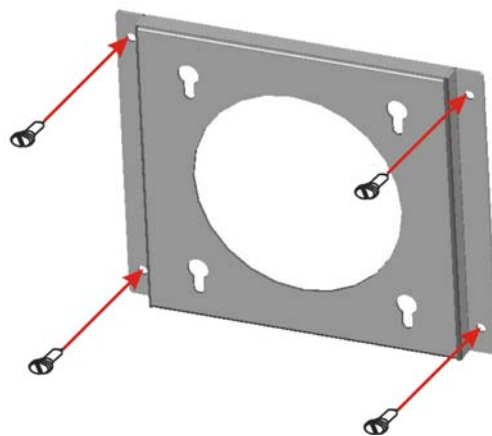

Figure 5-18: Wall-mounting Bracket
- Step 5:** Secure the mounting-bracket to the wall by inserting the retention screws into the four pilot holes and tightening them (**Figure 5-18**).